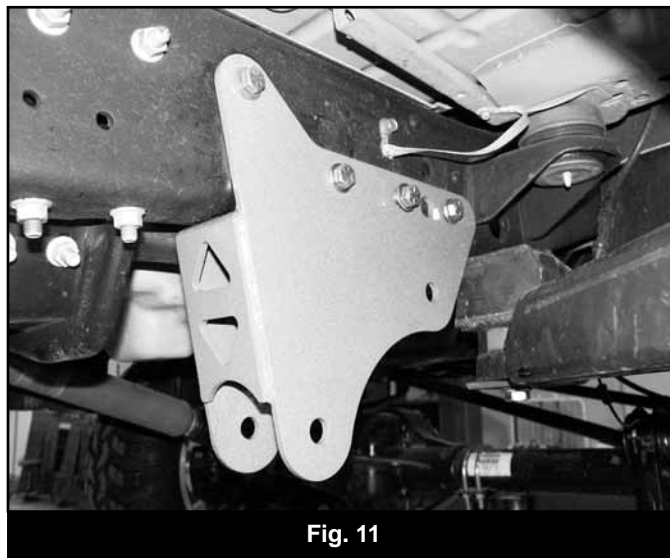

Fig. 11
39. Place the new passenger's side 4-Link bracket (02027) up to the frame and align the existing rivet holes with the corresponding holes in the bracket. Attach the bracket with  $\frac{1}{2}$ " x 1-1/2" bolts, nuts and  $\frac{1}{2}$ " SAE flat washers from bolt pack #432. Torque  $\frac{1}{2}$ " hardware to 90 ft-lbs. (Fig. 11, 12)